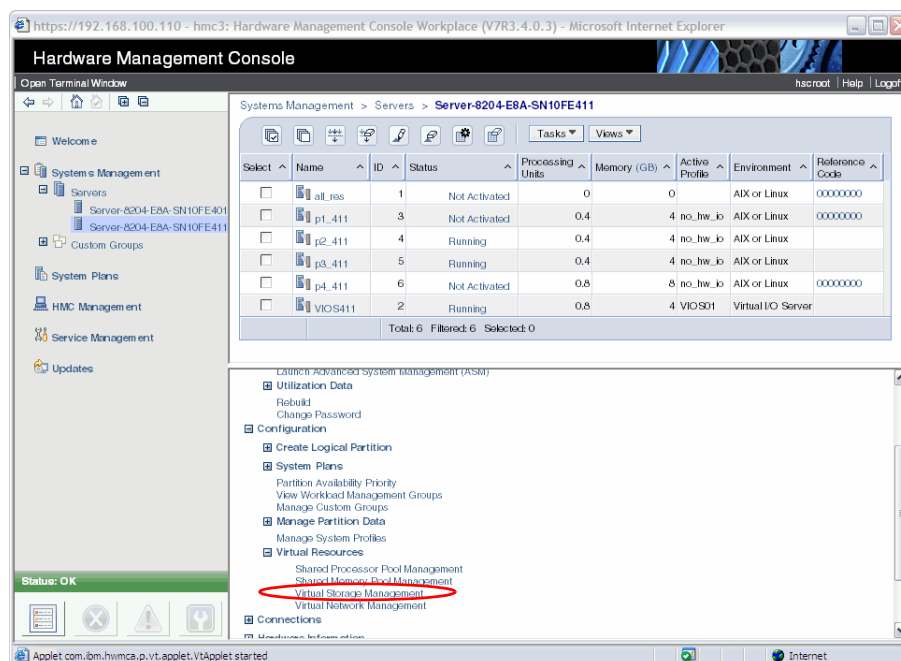

Figure 3-9 Virtual Storage Management Functions
10. Create a mapping from the Virtual I/O Server to the client logical partition for the SAN disk that has been discovered. This can be done using the Virtual I/O Server command-line tools or by using the **Configuration**  **Virtual Resource**  **Virtual Storage Management** panels as shown in Figure 3-9.